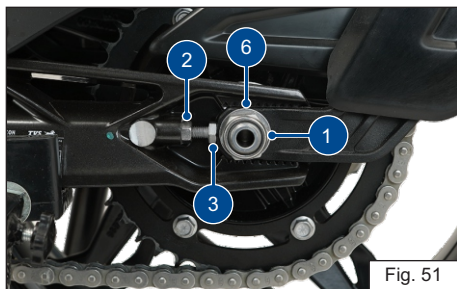

Fig. 51
- ◆ Loosen the rear axle nut (1) using a proper spanner from the tool kit (ref. Fig. 51).
- ◆ Release the lock nuts (2 & 3) (ref. Fig. 51 & 52) using proper spanner from the tool kit (ref. **page 135**).
- ♦ Turn the adjuster screws (4 & 5) 'in' or 'out' to obtain the specified slackness in the chain (ref. Fig. 51 & 52).
- ♦ Similarly, tighten the rear axle nut and lock nut to the specified torque, and check and ensure the chain slackness (ref. Fig. 51 & 52).